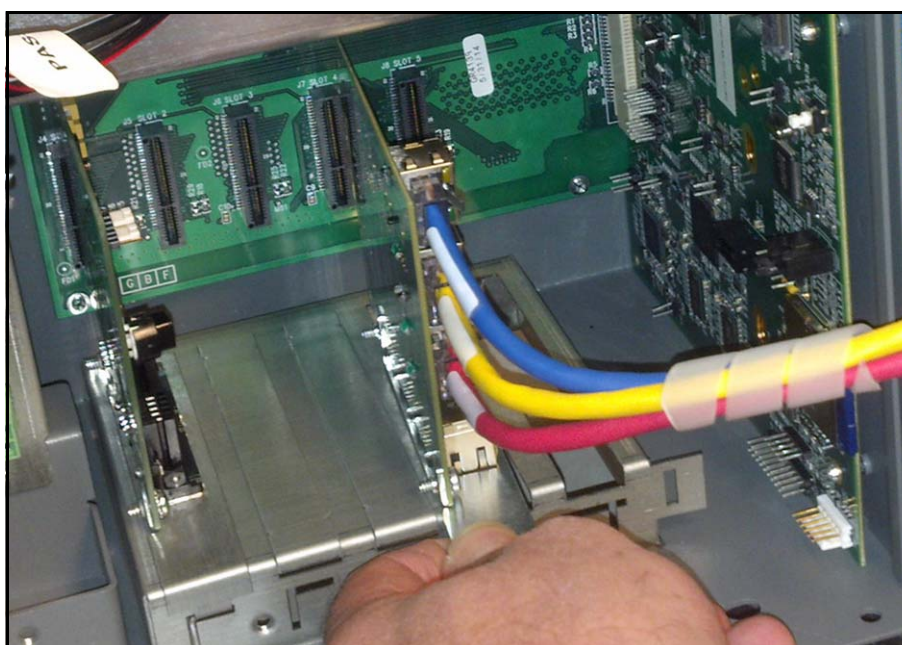

Figure 11. Install Ethernet Module In Slot 4
3. Install the TLS-450PLUS Ethernet Interface module in slot 4 (see Figure 11).